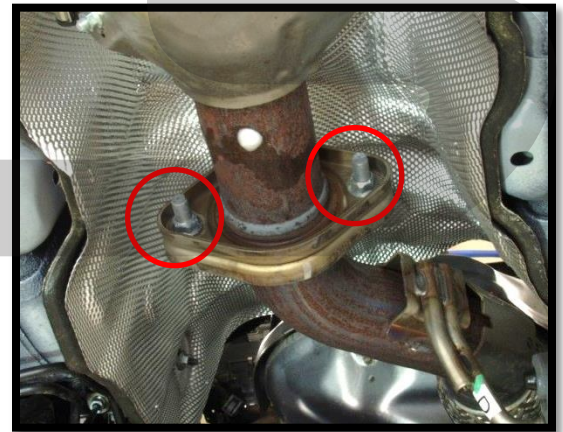

Figure 3d
- c) Un-fasten the cat from the downpipe by removing the two (2) 14mm nuts (red circles) with a 14mm deep socket wrench (Figure 3d).